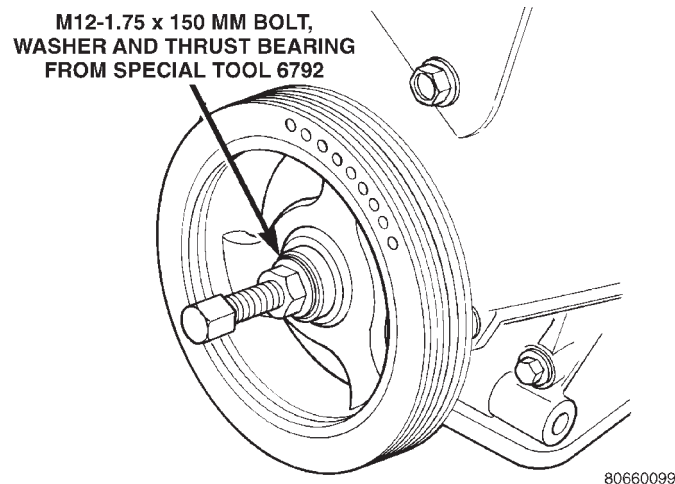

Fig. 49 Crankshaft Damper—Installation
(1) Install crankshaft damper using M12-1.75 x 150 mm bolt, washer, thrust bearing and nut from Special Tool 6792. Install crankshaft damper bolt and tighten to 142 N·m (105 ft. lbs.) (Fig. 49).
(2) Install accessory drive belts. Refer to Group 7, Cooling System Accessory Drive section for procedure.
(3) Raise vehicle on hoist and install right inner splash shield.